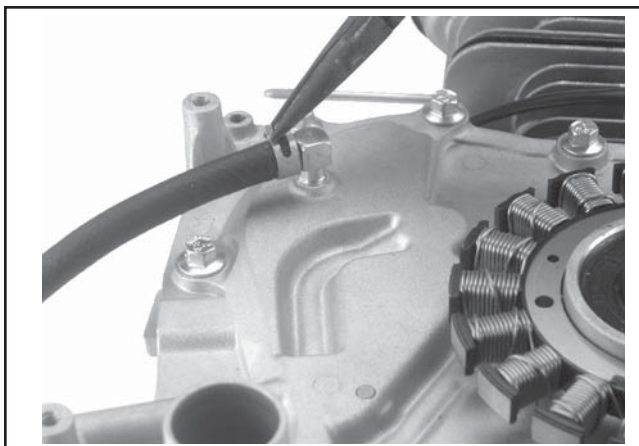

Figure 10-49. Connecting Pulse Line to Fitting.
2. If a fitting is used, connect the fuel pump pulse line and secure with the clamp. See Figure 10-49.